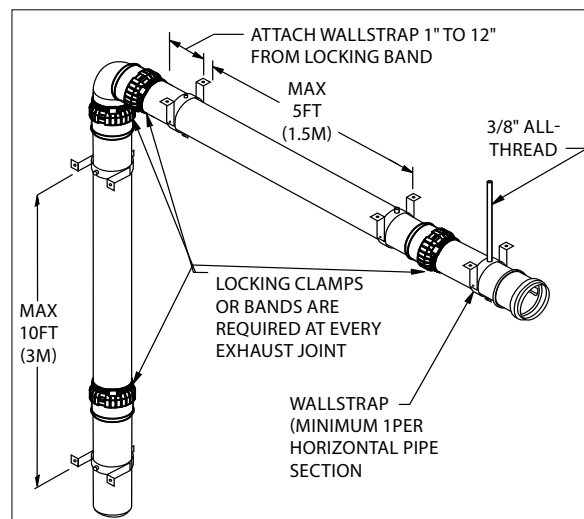

Figure 3
2. Every horizontal vent run must be supported. (Fig.3)
4. Vertical pipe lengths must be supported every 10 feet (3 meters) or less. Horizontal pipe lengths must be supported every 5 feet (1.5 meters) or less. (Fig.3)
5. Elbows and Tees are sufficiently supported by attaching a wall support within 1" to 12" of the pipe joint holding the Elbow or Tee. (Fig.3)